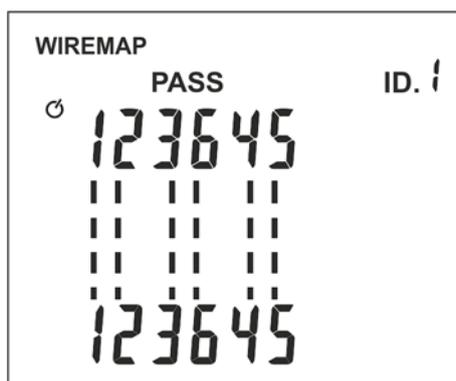

Fig. 11: Display of correct test on cable with RJ11 connector
4. Press the **TEST/←** key. The instrument carries out the test and displays the message **"PASS"** for a correct test (see Fig. 11) or symbol **"⚠"** together with flashing pairs in case of wiring error (see § 5.2.1).